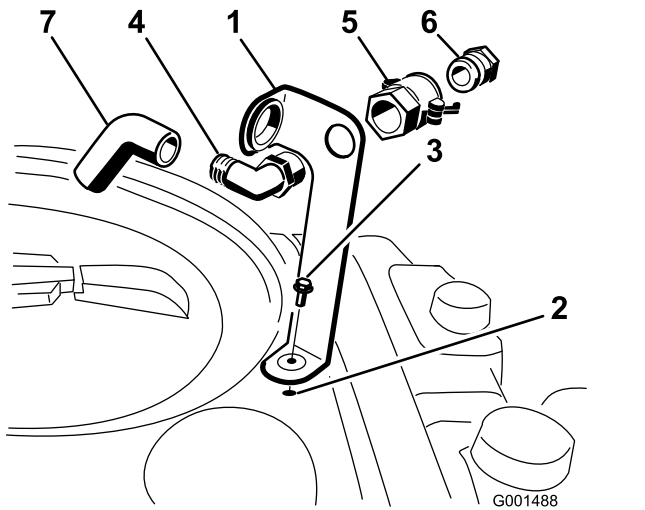

Figure 3
- Place the fill-receptacle bracket over the threaded hole in the tank and secure it with a flange-head bolt (5/16 x 3/4 inch) (Figure 3).
- Place the threaded end of the 90° elbow fitting through the bracket and thread the quick coupler onto it, securing it to the bracket (Figure 3).
- Install the hose adapter into the quick coupler (Figure 3).
- Lock the adapter into place by swinging the levers toward the adapter and then secure them with the hairpin cotters (Figure 3).
- Install the anti-siphon hose through the large opening on the bracket and onto the barbed end of the 90° elbow fitting (Figure 3).